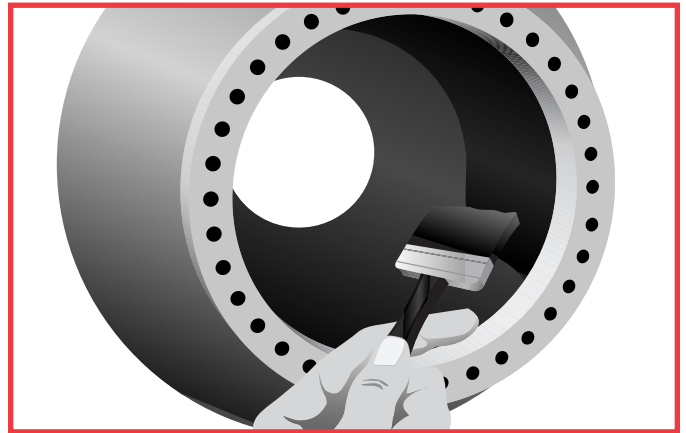

Figure 41. Brushable Ceramic applied over the epoxy putty repair provides a low friction finish that extends the operating life and efficiency of the pump.
4. **Top coat** the entire volute area with Brushable Ceramic Epoxy to increase pump efficiency. (See figure 41)